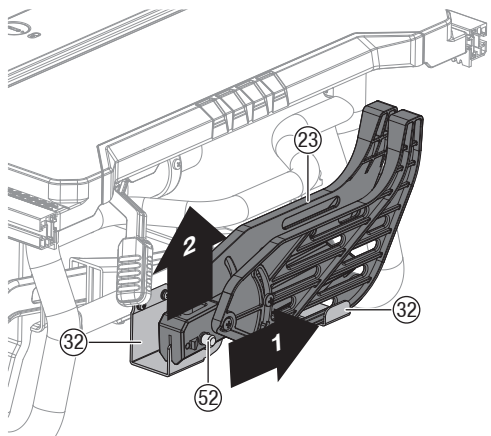

Fig. 6a
## BLADE GUARD INSTALLATION (Fig. 6a-6c)
- Hold the knobs (52) (one on either side of the blade guard) and push the knobs forward to the front of the blade guard and up until the pin comes out from the slot in the mounting bracket (blade guard storage) (32) at bottom front right side of the saw, then remove the blade guard from the U-bracket (blade guard storage) (32) at bottom middle right side of the saw (Fig. 6a).